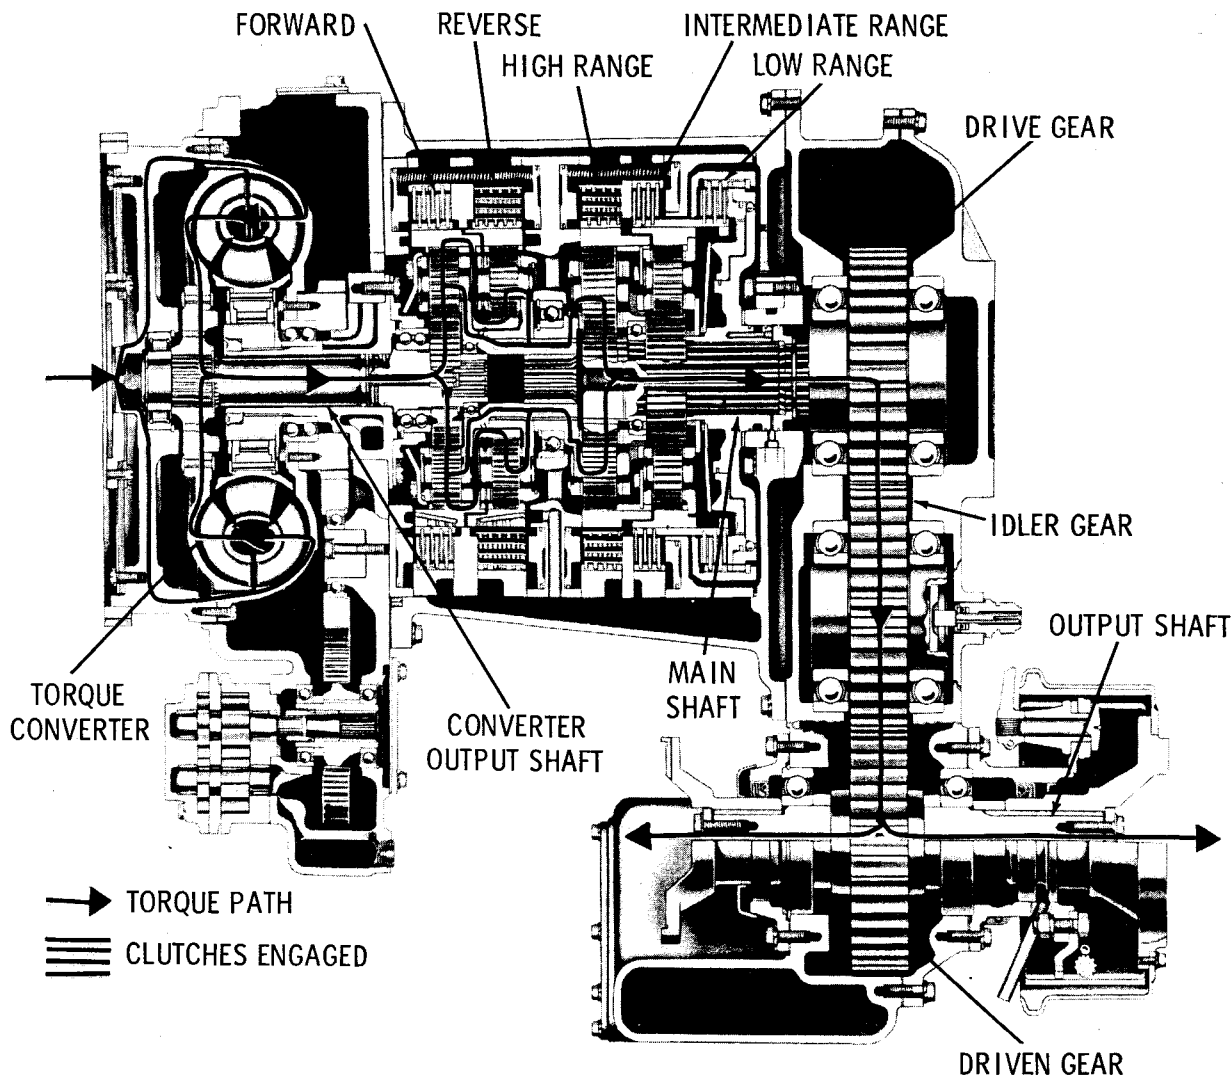

Fig. 2-7. Reverse, high range—torque path
h. Reverse, High Range (fig. 2-7)
(1) The reverse and high-range clutches are engaged. Torque is transmitted to the high-range planetary carrier as explained in f(1) and (2), above.
(2) Torque is transmitted from the high-range planetary carrier to transmission out-